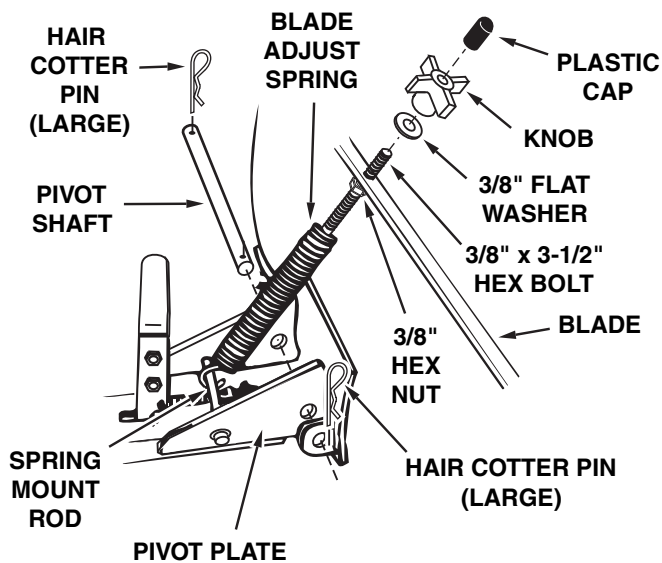

Figure 2
7. To attach the channel assembly to the blade, align the pivot plate between the welded brackets on the back of the blade. Insert the pivot shaft through the holes in the pivot plate and the welded brackets. Secure the pivot shaft with the two large hair cotter pins. See figure 2.
8. Hook the blade adjust spring over the spring mount rod as shown. Insert the bolt through the hole at the top of the blade and assemble the 3/8" flat washer and the knob onto the bolt. Turn the knob until it is tight. Place the plastic cap over the end of the bolt. See figure 2.
To decrease the spring tension loosen the knob, screw the nut farther out toward the end of the bolt and then retighten the knob. Refer to figure 2 on page 5.